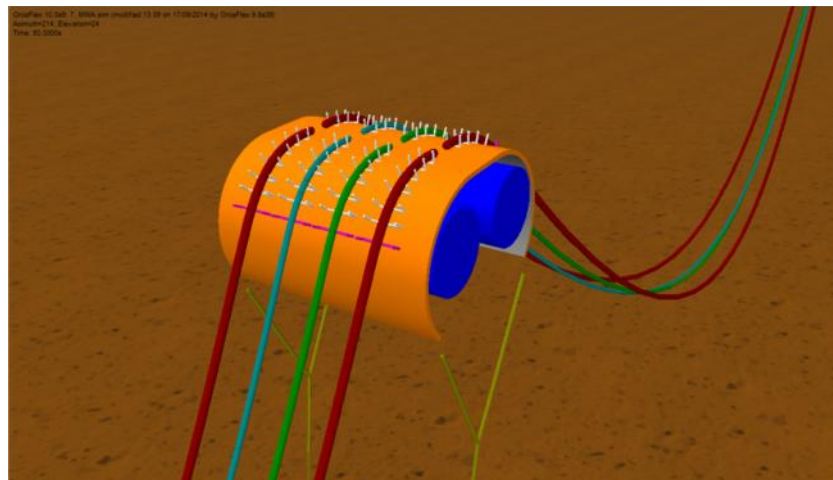

Figure 6-2: Supports Used to Model Mid Water Arch Gutters
-) Midwater arch gutters (**Figure 6-2**)